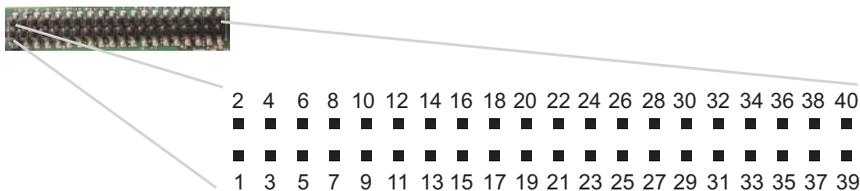

Figure 53: Top-view of 40-Pin Connector on the OEMV-3
- e. See also *Figure 53* on *page 144* and its table.